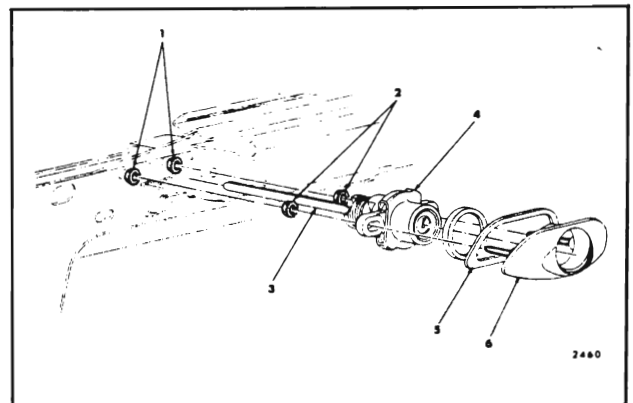

Fig. 8-12 - Rear Compartment Lid Lock Cylinder Assembly - Oldsmobile "E" Style Shown
1. Open rear compartment lid. Remove nuts marked "1" securing lock cylinder assembly to retainer (Fig. 8-12). Remove cylinder and
2. To remove cylinder and shaft assembly from escutcheon, remove nuts marked "2" (Fig. 8-12).